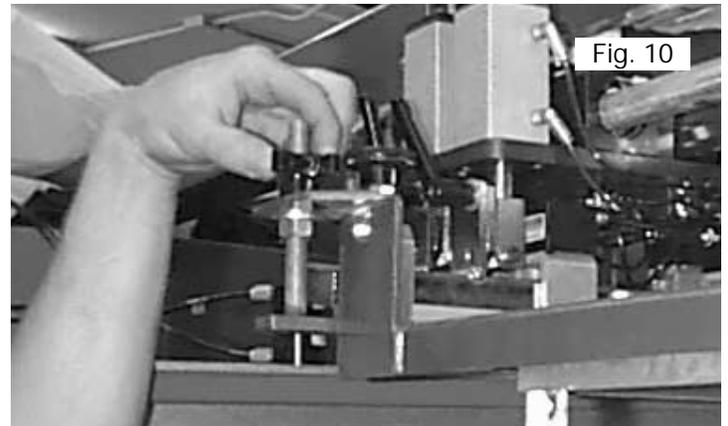

Fig. 10
9. Adjust both the front and rear threaded support rods so that the dimensions from the top of the printing pallet to the bottom of the infrared heat panel is 3/4" (1.9 cm) to 1-1/2" (3.8 cm) at all four corners. Make this adjustment while the index table is in the fully raised position. (See Fig. 10)